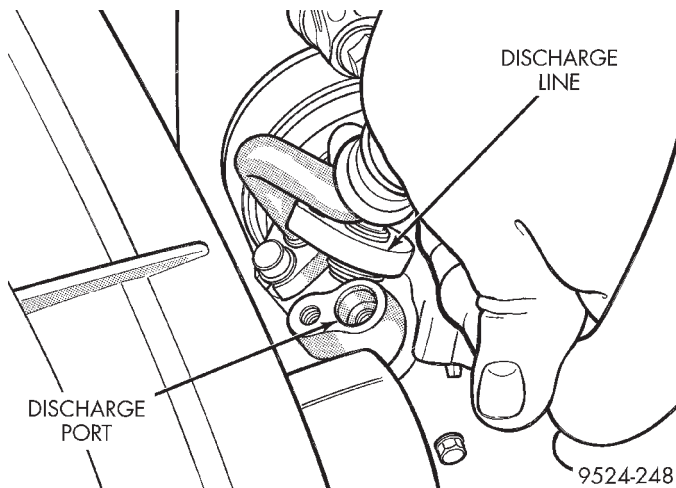

**Fig. 34 Line at Compressor**
(4) Disconnect line at A/C compressor (Fig. 34). Remove discharge line.